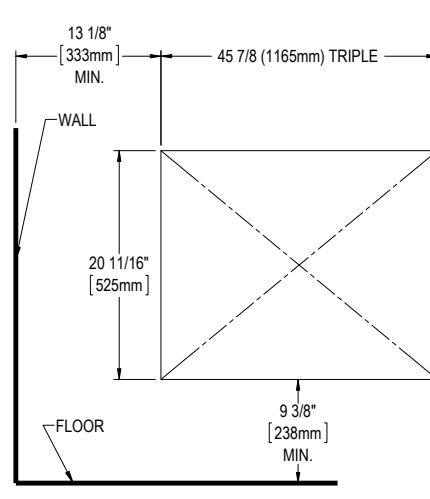

FIG. 3
2. Triple units must meet a minimum distance of **12 inches (305 mm)** from surrounding walls and **8 inches (203 mm)** from the floor. For recessed installation opening for triple units, see figure 3.